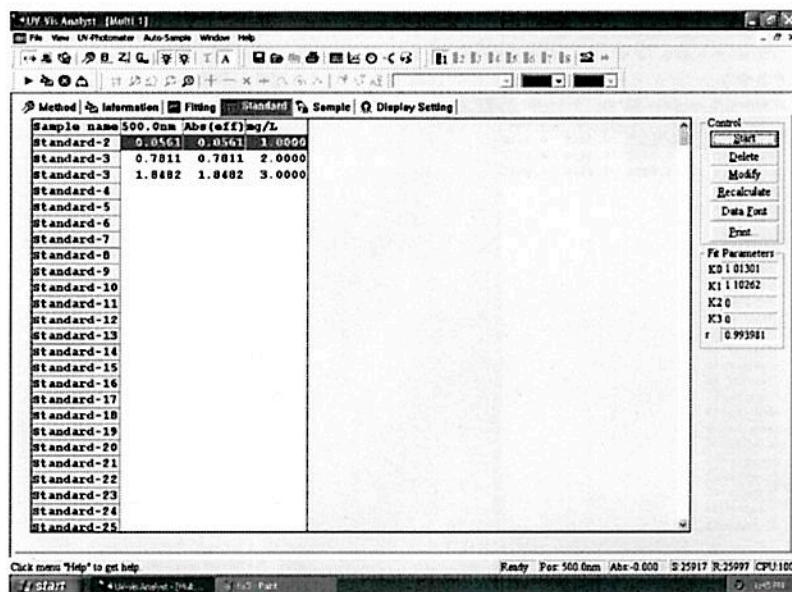

Fig. 4-6
- (1) Tick the **Use Standard Samples** check box.
- (2) Place the reference into the sample holder. Click  to do blank.
- (3) Click the **Standard** tab.
- (4) Place Standard 1 in the sample compartment. Click **Start** to run a measurement.
- (5) Key in the concentration value of Standard 1 in the **Conc.** box.
- (6) Key in the sample name for the standard in the **Name** box.
- (7) Click **OK**. The photometric data, ΔA and concentration will be shown in the standard table.
- (8) Repeat steps 4-7 to measure all the prepared standards (Fig. 4-6).